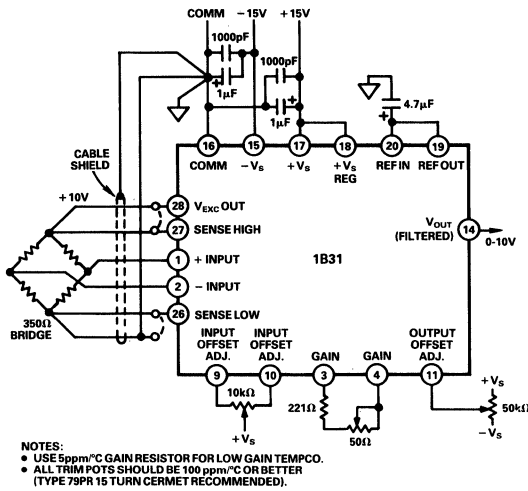

Figure 2. Typical Application
where RG is connected between the GAIN terminals (Pins 3 and 4) of the 1B31, as shown in Figure 2. For best performance, a low temperature coefficient (5ppm/°C) RG is recommended. For fine span adjustment, a 50Ω potentiometer may be connected in series with RG.
**Input Offset Adjustment:** To null input offset voltage, an optional 10kΩ potentiometer may be connected across the INPUT OFFSET ADJ. terminals (Pins 9 and 10 in Figure 2). With gain set at the desired value, connect both inputs (Pins 1 and 2) to COMMON (Pin 16), and adjust the 10kΩ potentiometer for zero volts at Pin 14. For applications using software nulling, Pins 9 and 10 should be left unconnected.
**Output Offset Adjustment:** The output can be offset over the ±10V range to compensate for dead load or bridge imbalance by using a 50kΩ potentiometer connected to Pin 11 as shown in Figure 2. Pin 11 is normally grounded if output offsetting is not desired.
The remote sensing inputs should be connected to the transducer separately from the excitation leads or jumpered as shown in Figure 2.
**Power Supply Decoupling:** The power supplies should be decoupled with 1 $\mu$ F tantalum and 1000pF ceramic capacitors as close to the 1B31 as possible (Figure 2).